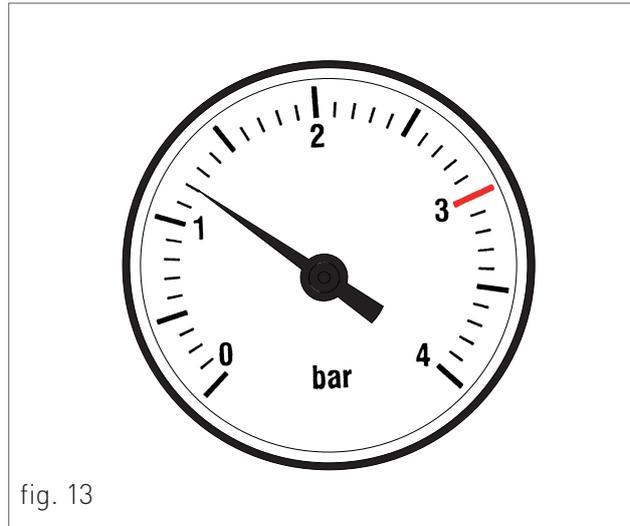

fig. 13
6. Use pressure gauge "M" (fig. 11) to make sure that the system pressure reaches 1.2 bar (fig. 13);
10. If after performing these operations you observe a decrease of the water pressure inside the system, open once again the loading tap "R" until the pressure gauge indicates the value of 1.2 bar (fig. 13)